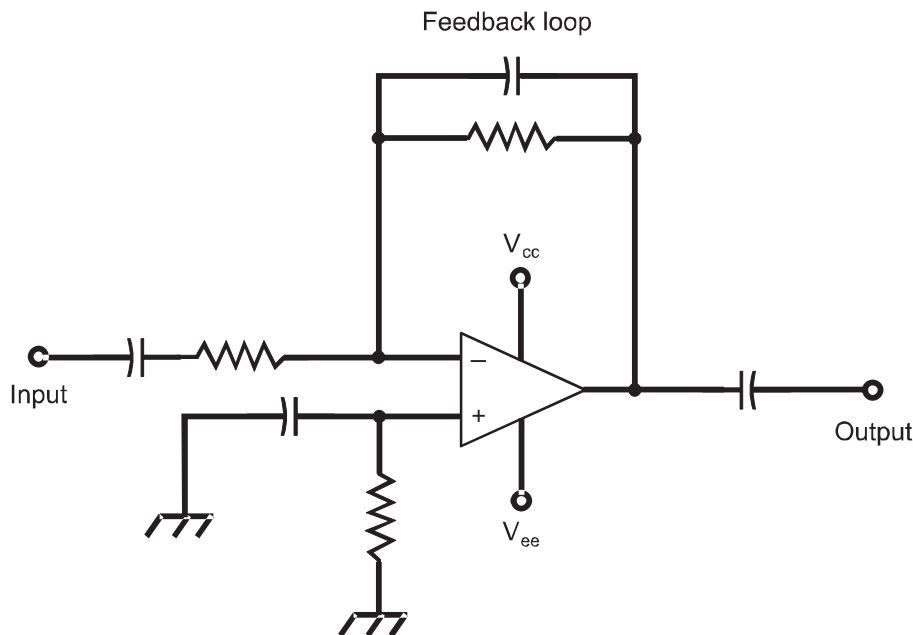

Fig. 7-3. Generic op-amp circuit, using RC combinations to “tailor” the gain and the frequency response.
A simple integrated-circuit (IC) amplifier is shown in Fig. 7-3. This circuit uses an operational amplifier (op amp). Op amps can perform various electronic functions as discussed in the previous chapter.